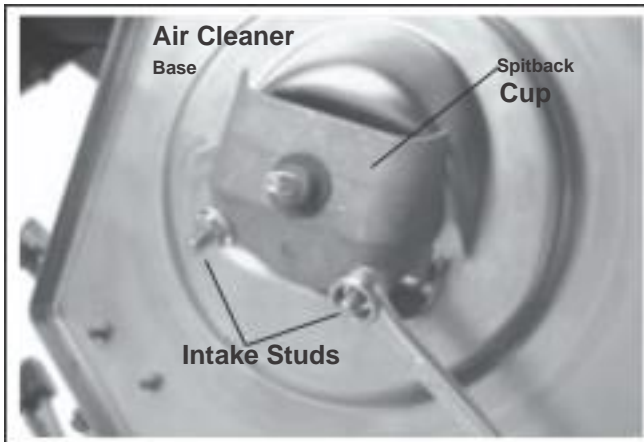

Figure 9-6. Removing Spitback Cup and Air Cleaner Base.
3. Remove the hex flange nuts from the mounting studs, and take off the air cleaner mounting bracket, spitback cup or collector plate, and gasket as equipped. See Figure 9-6.